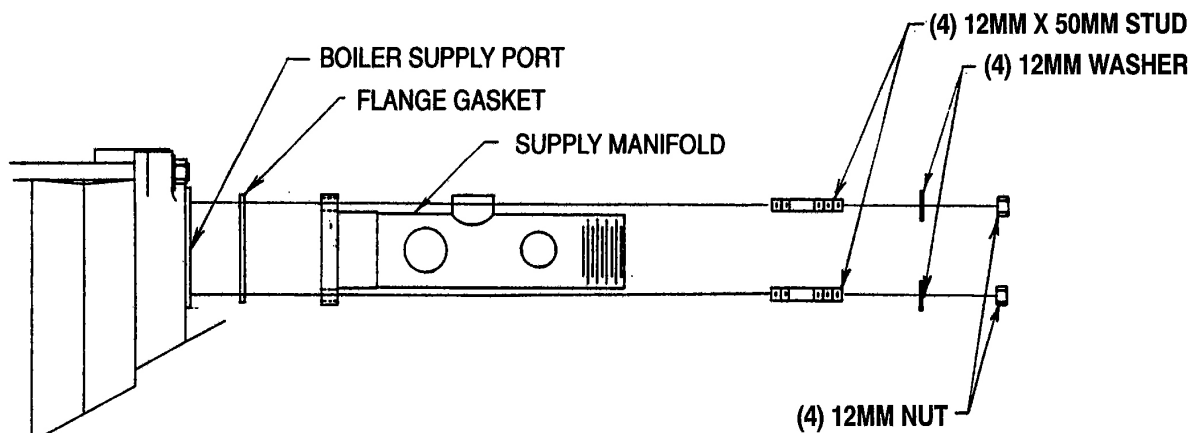

Figure 14 - Supply Manifold Assembly
- a) Attach supply manifold as shown in Figure 14.